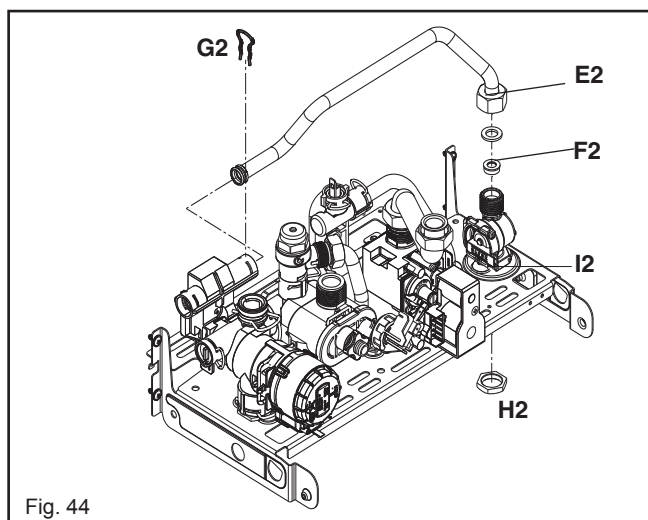

Fig. 44
6.20.1 DHW FLOW RESTRICTOR (fig. 44)
6.20.2 DHW FLOW METER (fig. 44)
On completion of the combustion analysis check and/or any gas valve adjustment, refit the plug (fig. 44 Q2) and move the mode selector through  position. Remove the test probe from the test point and refit the sealing screw/s and/or cap.